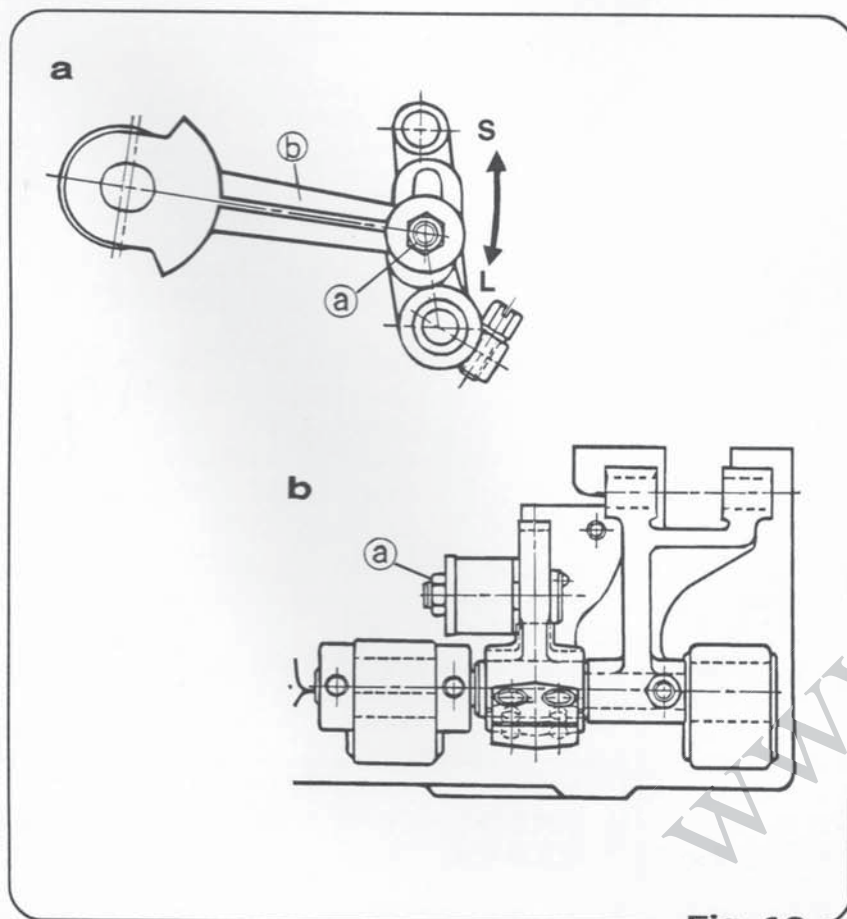

Fig. 10
Loosen the nut ③ of the feed regulator and move the feed connecting rod ⑤ in the direction of S, as shown in (Fig.10), to decrease the stitch width, and move the rod in the direction of L to increase the width. When moving the feed connecting rod, do so after confirming that the feed connecting rod can move freely along the slot in the feed rocker (Rotate the pulley in the forward direction until the feed dog is in the forefront position).
针距可调节从一针距最小 7mm 调至最大 11.5mm。从工场出货时，这针距调为 10mm。针距调节要领，请参看(图 10)